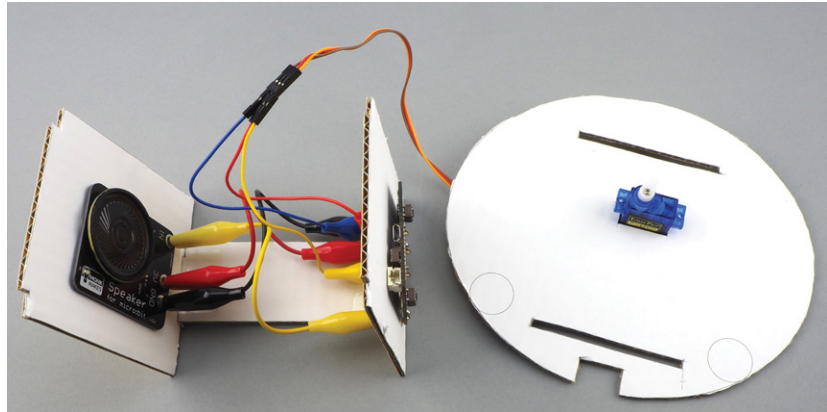

Figure 6-16: Connecting the servomotor
13. With the servomotor arm fixed in place at 90 degrees (review the end of Experiment 8 if needed), push the servomotor through the top card (the round face), threading the servomotor's wire through first. Notice that the servomotor's shaft is not in the center of the servomotor but rather toward one end; that end should be at the end of the servomotor cutout that is closest to the center of the top card (see Figure 6-16).